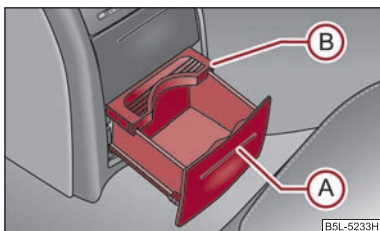

Fig. 82 Centre console at rear: Cup holder
- Press on the panel in the area (A) ⇒ fig. 82 - the cup holder comes out.
- Adjust the cup holder by moving the locking plate (B).